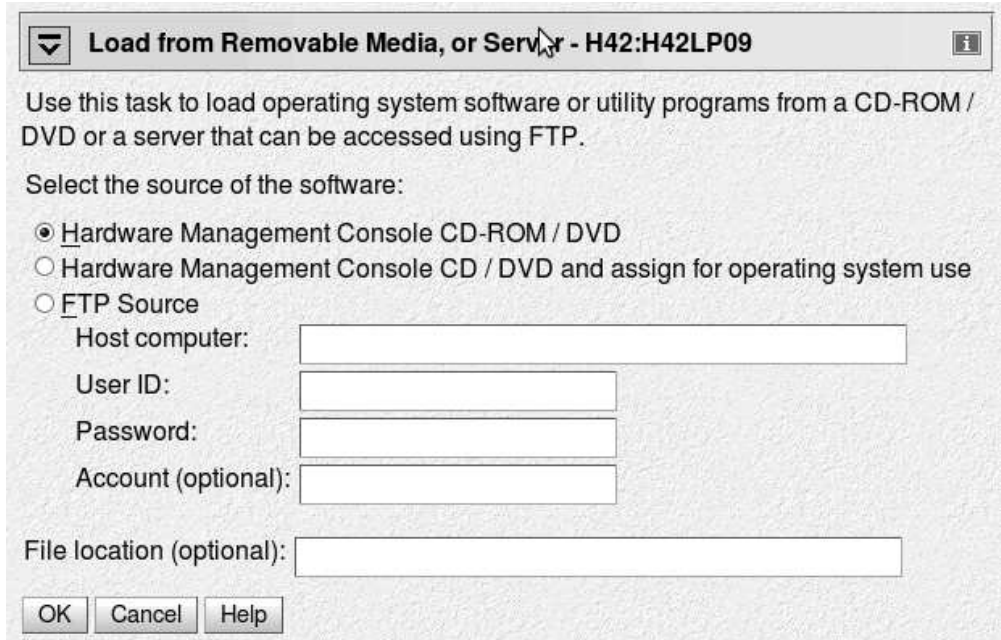

Figure 29. Load from Removable Media or Server panel
- a. Select **Hardware Management Console CD-ROM/DVD** (see Figure 29 on page 97).